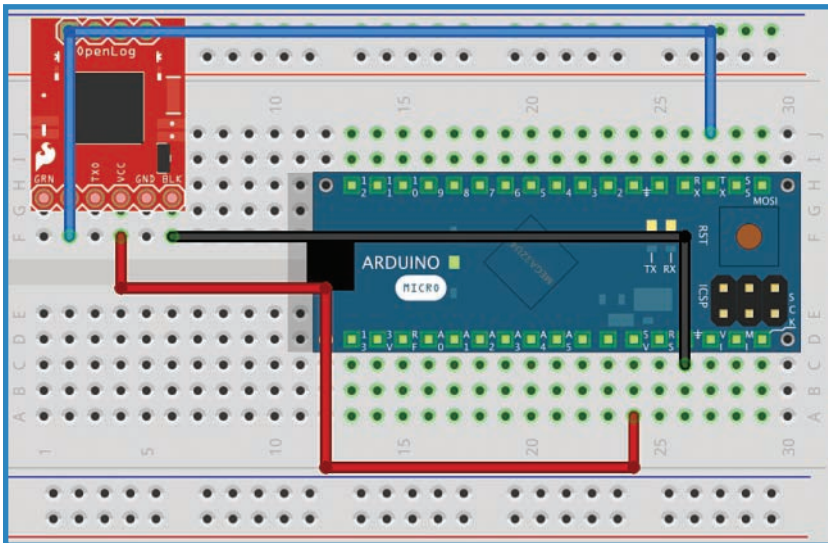

FIGURE 5.15 Install and wire up the datalogger.
3. Plug in the datalogger module and wire it up as shown in Figure 5.15. VCC plugs into 5V on the Arduino, while BLK plugs into the Micro's ground. (Note that the datalogger has both a GND and BLK pin, but leave GND alone!) Finally, connect the RXI pin on the OpenLog with the TX pin on the Arduino.